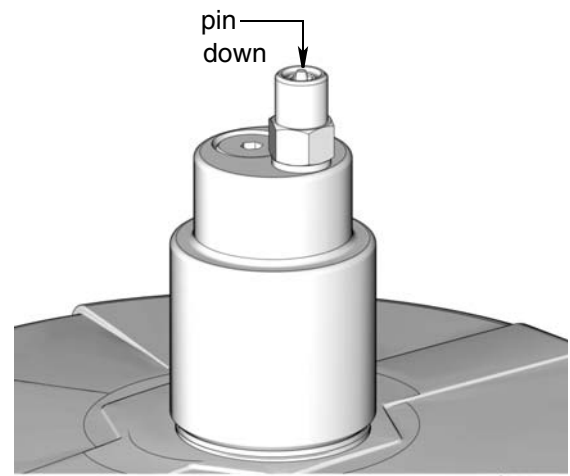

FIG. 26
1. Pull out and hold the Pressure Relief Knob (T) long enough to relieve line pressure between Fill Manifold (N) and Auto-Fill Shut Off Valve (B).
2. Verify the Auto-Fill Shut Off (B) pin is down, indicating it is reset (FIG. 26).